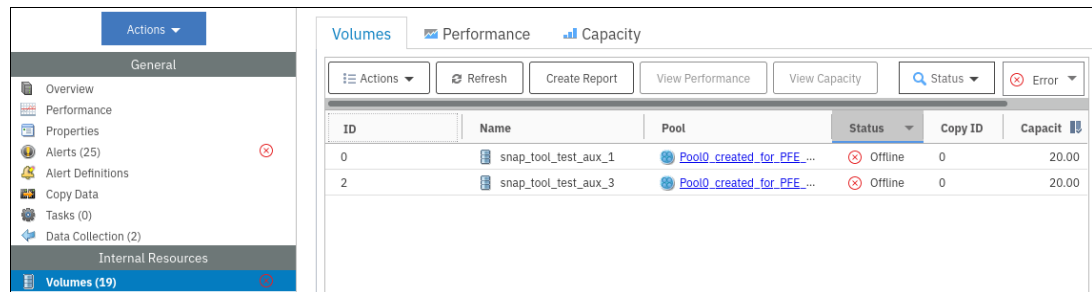

Figure 9-75 Offline volumes
Clicking **Volumes** reveals the offending volumes, as shown in Figure 9-75 on page 533.
- ▶ **View List:** Similar to IBM Spectrum Control, as shown in Figure 9-75 on page 533.